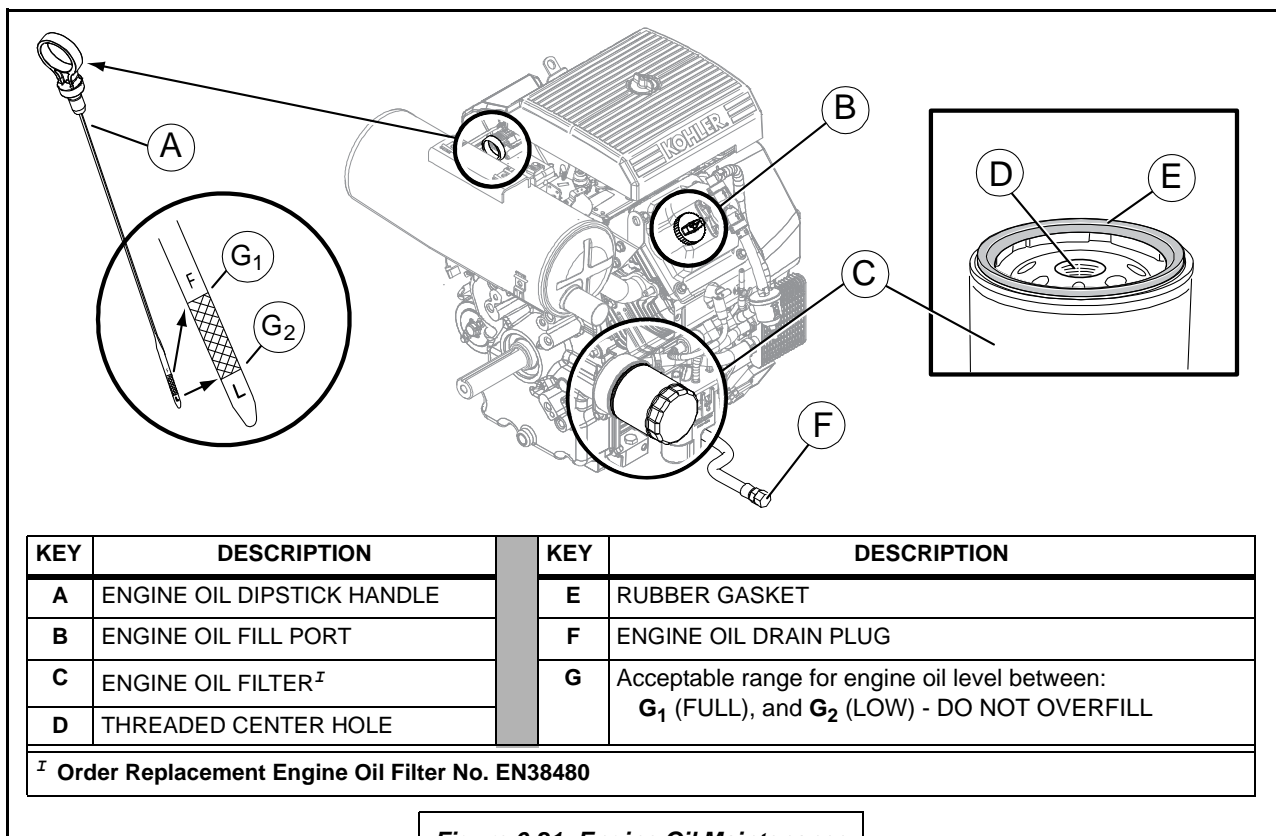

Figure 6-21: Engine Oil Maintenance
Refer to **Figure 6-21**. The engine oil level is checked often and periodically as per the maintenance schedule intervals suggested in **Section 6.3, MAINTENANCE**
Refer to **Figure 6-21**. Replace the oil filter **at least every other oil change (every 200 hours of operation)**.
9. Remove the fill cap [B] or use the dipstick fill tube [A] to fill the crankcase with new oil of the proper type to the [G₁] or **FULL** mark on the dipstick (see [G₁] in *Figure 6-21*).